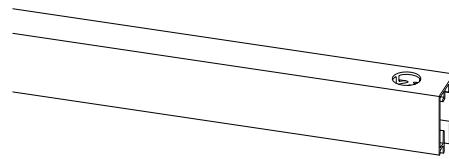
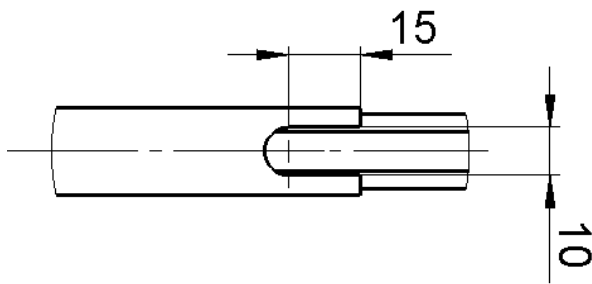
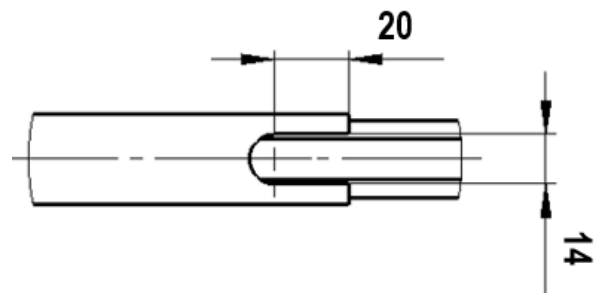

Fig.8: Insulation profile with drilled hole
Fig.9: Slot for conductor rail system 0812
Fig.10: Slot for conductor rail system 0813
→ At the conductor rail end of the infeed point of the heating wire, a slot for the heating wire has to be sawn into the insulation profile in accordance with Fig.9 and Fig.10. To avoid crushing of the heating wire or the cold connection cable:
- For 0812 insulation profile: Make a 15 mm slot on both sides to the hole (see Fig.8 and Fig.9).
- For 0813 insulation profile: Make a 20 mm slot on both sides to the hole (see Fig.8 and Fig.10).